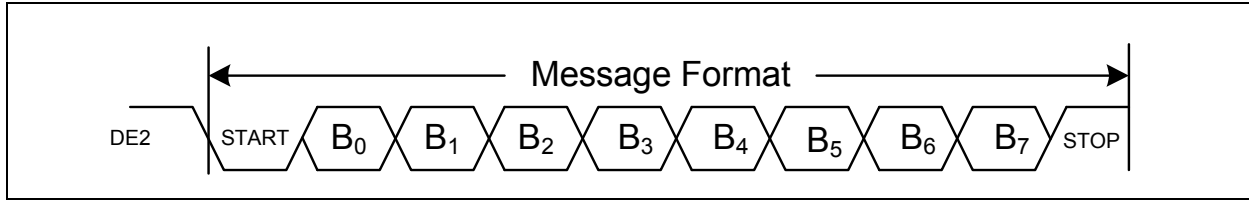

FIGURE 4-2: DE2 PACKET FORMAT.
**Figure 4-2** illustrates a basic DE2 data packet.